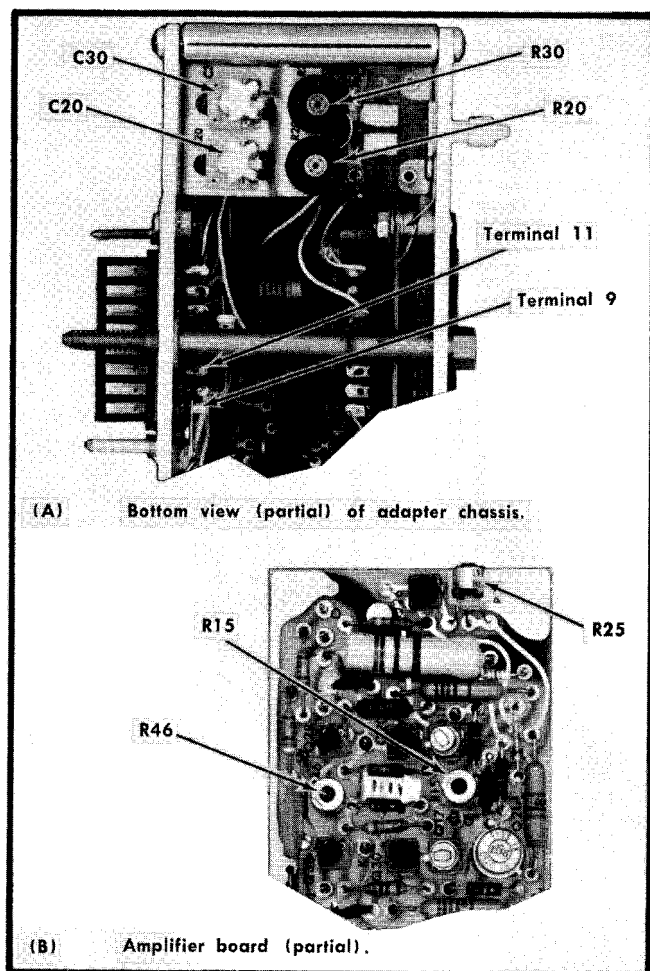

Fig. 11. Location of test points and adjustments for steps 2, 3 and 5.
a. The preliminary procedure and Oscilloscope control settings apply. Locations of check points and adjustments are shown in Fig. 11.
d. Connect the non-loading DC voltmeter across terminals 9 and 11 of the Adapter-to-Oscilloscope plug. See Fig. 11 (A).
f. ADJUST—DC BAL, R15, Fig. 11 (B), until the voltmeter reads  $0\text{ V} \pm 50\text{ mV}$ .
d, e, f (alternate). Using a shorting strap, connect the Adapter-to-Oscilloscope terminals 9 and 11 together. Obtain a trace on the Oscilloscope and note its vertical position. (Its position can be marked with a grease pencil for reference purposes.) Remove the shorting strap. Adjust DC BAL, R15, (Fig. 11) until the trace is positioned to the just-determined reference position.
i. ADJUST—DC LEVEL, R25, Fig. 11 (B), for  $+49\text{ V} \pm 2.0\text{ V}$  output.
a. The preliminary procedure and Oscilloscope control settings apply. Location of the adjustment is shown in Fig. 11 (B).
f. ADJUST—GAIN, R46, Fig. 11 (B), to provide  $2\text{ cm} \pm 0.6\text{ mm}$  between the center of the traces.
- The preliminary procedure and Oscilloscope control settings apply. Locations of adjustments are shown in Fig. 11 (A). Typical waveforms are shown in Fig. 12.
- ADJUST—R20, C20, R30 and C30, Fig. 11 (A), for optimum squareness and flatness at the top left corner of the waveform. 0.3 mm (approximately 1 graticule line width) or less rounding, overshoot or tilt. See Fig. 12 (A), (B) and (C). (Slower sweep rates may be used in addition to .05  $\mu$ Sec/CM to aid in observation of adjustment effects.)